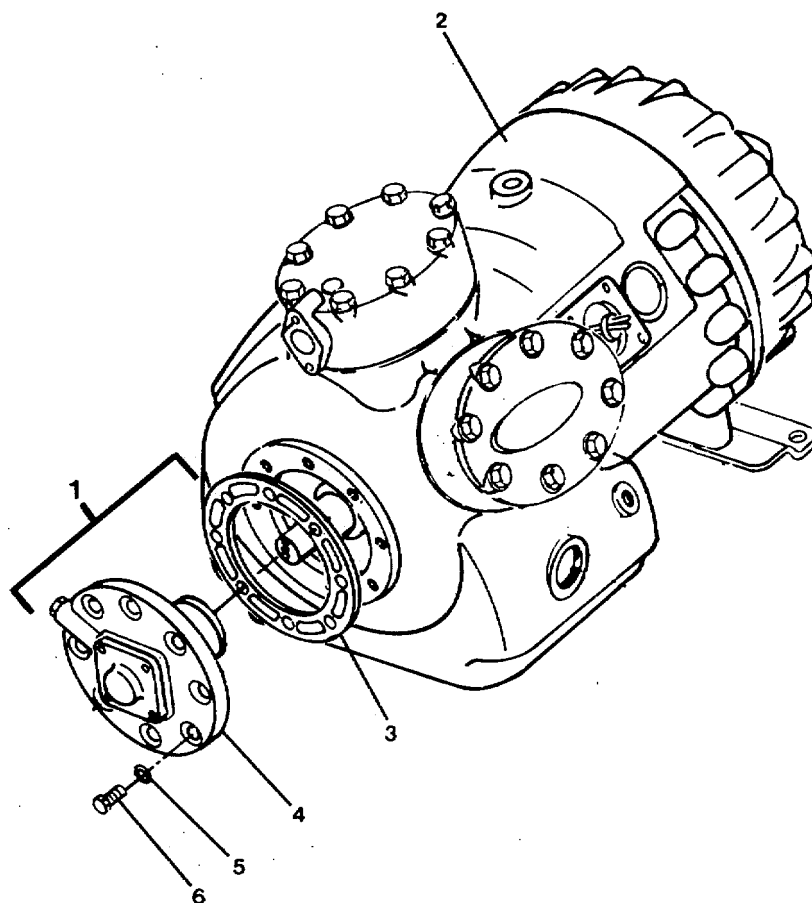
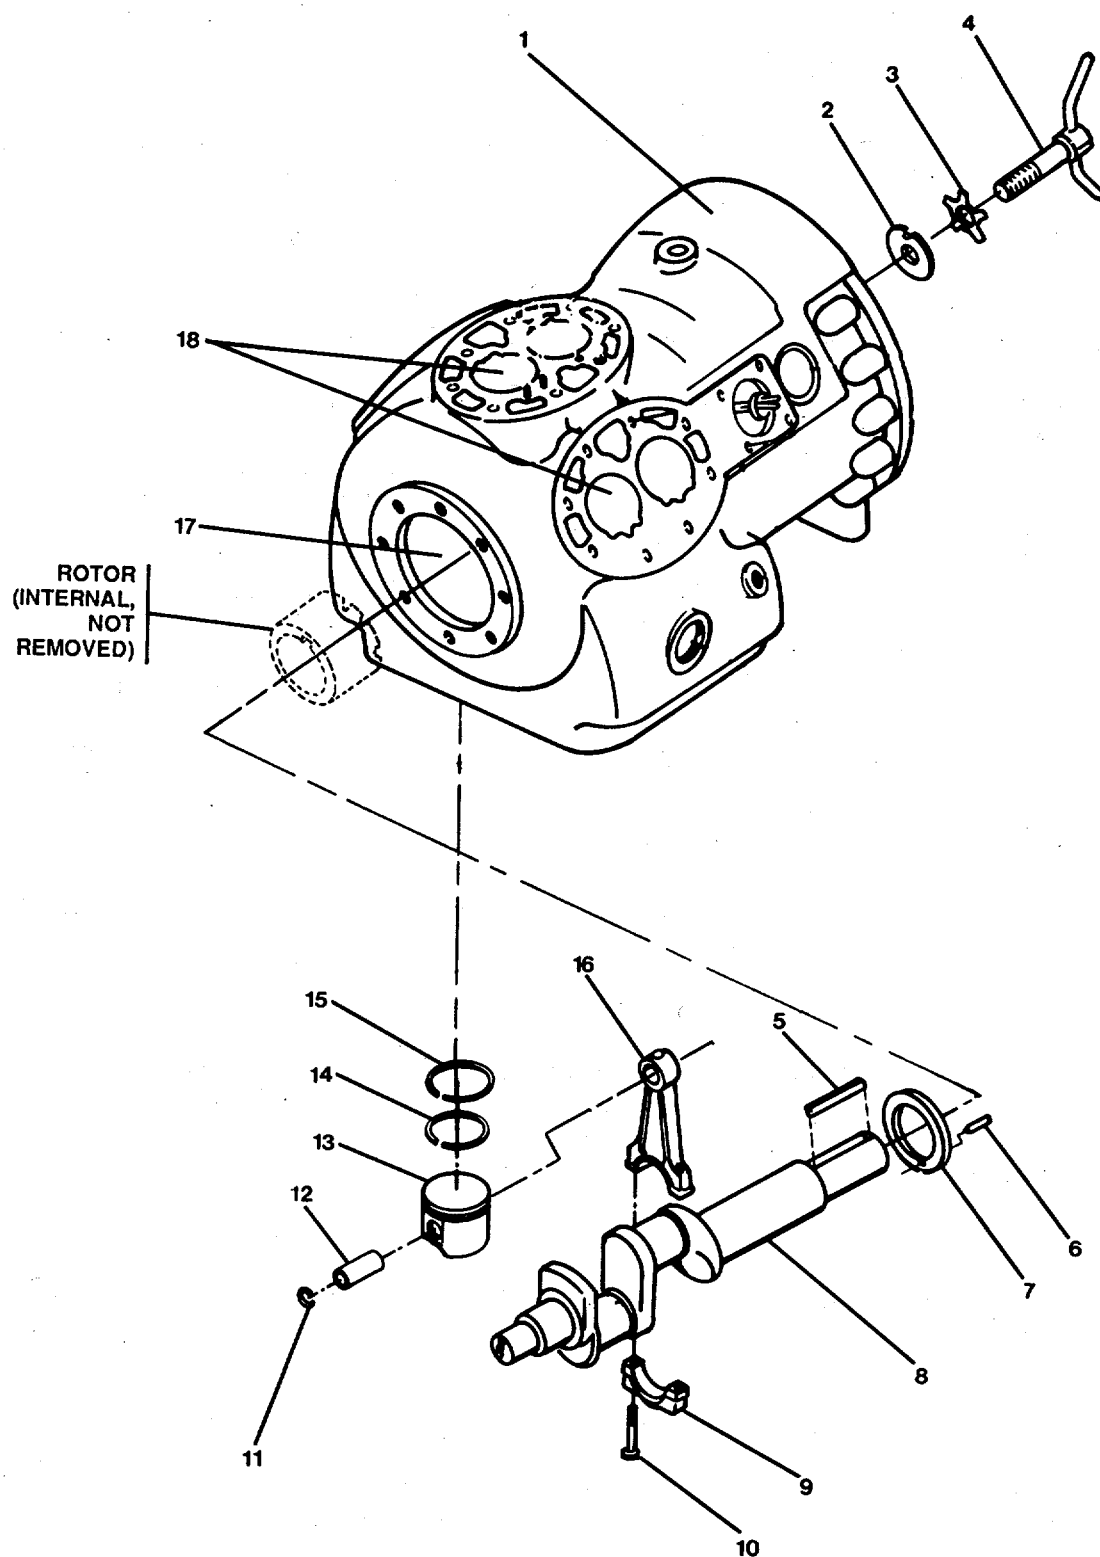

FIGURE 4-21. Replacing Pump and Bearing Assembly.
FIGURE 4-22. Replacing Crankshaft, Pistons, and Connecting Rods.
- (11) Install assembly relief valve (package) (13). Safety relief valve (14) installed with package.
- (12) Connect oil suction tube (12) to oil pump inside crankcase. Connect oil strainer (11) to suction tube (12).
- (13) Coat gasket (7) with clean compressor oil.
- (14) Align gasket (7) and install compressor plate (8) to compressor (1) with 22 capscrews (10) and washers (9).
- (15) Torque capscrews alternately from side to side to following values:
- (16) Replace compressor (REPLACEMENT steps in this procedure).
- h. Replace pump and bearing head assembly (1, FIGURE 4-21):
- (1) Remove pump and bearing head assembly as follows: Remove eight capscrews (6) and washers (5) and remove oil pump bearing head (4) and gasket (3) from compressor (2).
- (2) Install pump and bearing head assembly as follows:
- (c) Position gasket (3) on compressor (2) and install pump and bearing head (4) with eight capscrews (6) and washers (5). Torque capscrews alternately to following values:
- i. Replace crankshaft (8, FIGURE 4-22), rotor drive key (5), connecting rod and cap assembly (10, 9, 16), and compressor piston (13) and rings (14, 5).
- (1) Remove compressor (See REMOVAL steps, above).
- (2) Remove cylinder head and compressor heads (REPAIR, step d. , above).
- (3) Remove motor end cover, gasket, and suction strainer (REPAIR, step f. above).